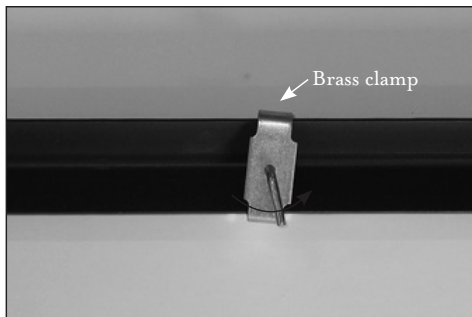

FIGURE 3
STEP 4: Tighten the brass clamps on the metal slats to lock them in place, as shown in FIGURE 3.